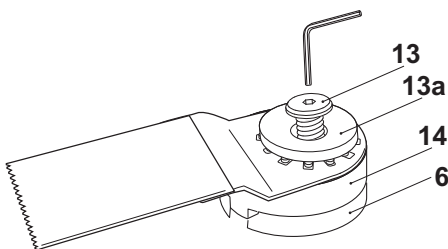

Fig. 12
- > Secure the tool attachment with locking flange (13a) and bolt (13) (Fig. 12).